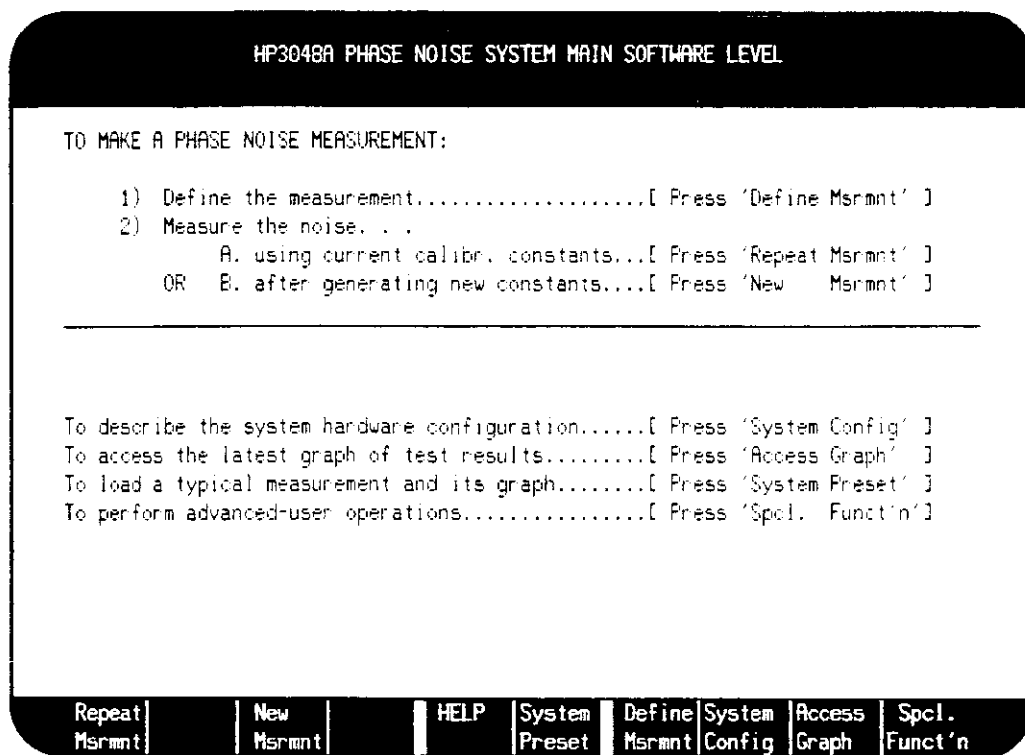

Figure 8-6. Main Software Level Menu
4. Set the HP 3048A to the Main Software Level menu. Refer to figure 8-6.